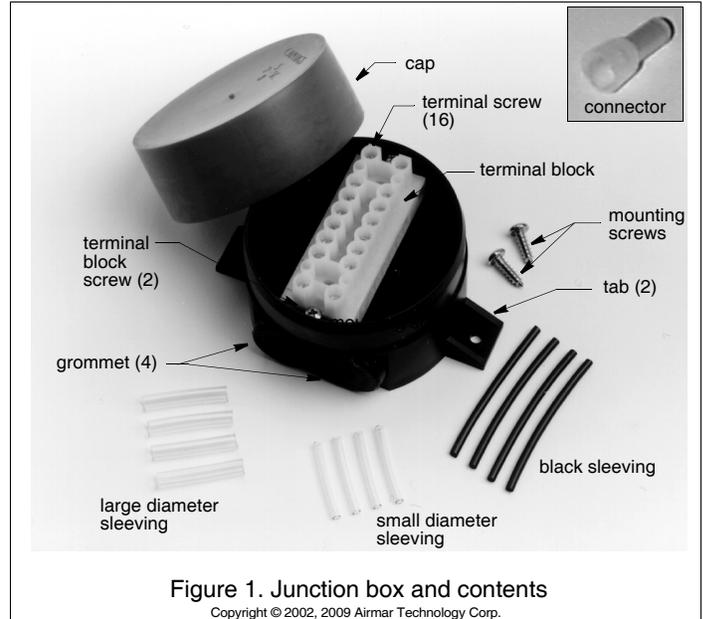

Figure 1. Junction box and contents
1. Remove the red cap from the junction box and set the contents aside (see Figure 1).
3. Place the terminal block inside the junction box. Secure the ends with the terminal block screws provided (see Figure 1).